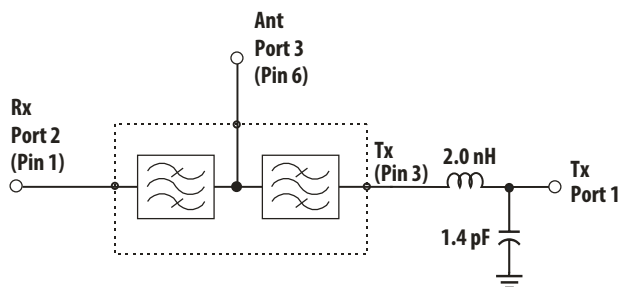

Figure 1. Tx Matching
Ant, Rx $Z_0 = 50\ \Omega$, Tx port includes matching to $50\ \Omega$ as shown in Figure 1.
4. Tx port includes matching to $50\ \Omega$ as shown in Figure 1.
The performance of the ACMD-6103 duplexer is specified using the simple, 2-element external Tx matching circuit shown in Figure 1.
ACMD-6103 (Ant, Rx $Z_0 = 50 \Omega$, Tx port includes matching to 50Ω as shown in Figure 1)